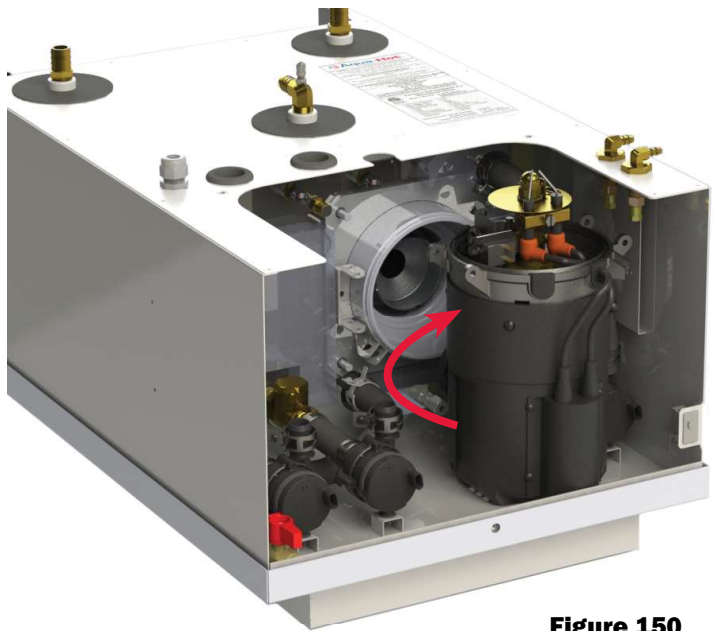

Figure 150
1. Carefully pull the diesel burner away from the Aqua-Hot 4 - 5 inches before rotating the burner, then remove completely as shown in Figure 150.